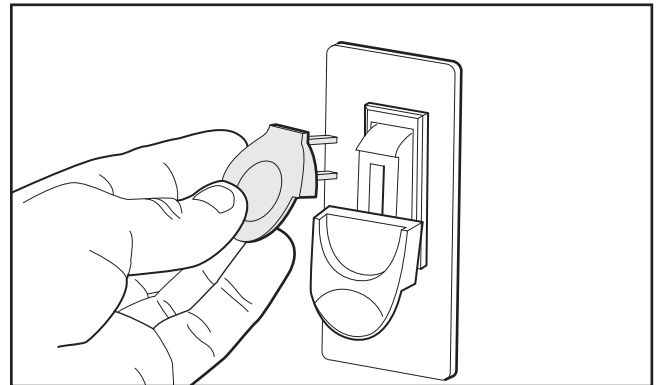

Figure 51. Removing switch key from paddle switch.
8. Turn the machine **OFF**, and remove the switch disabling key, as shown in **Figure 51**.